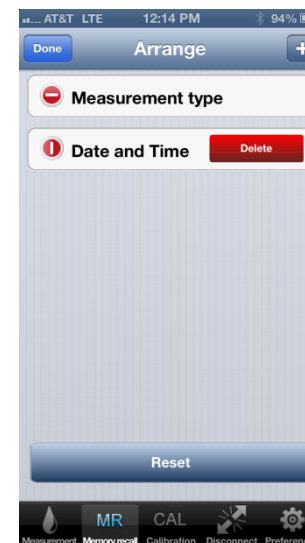

Figure 29
- A RED Delete button will appear in the key field (see Figure 29).